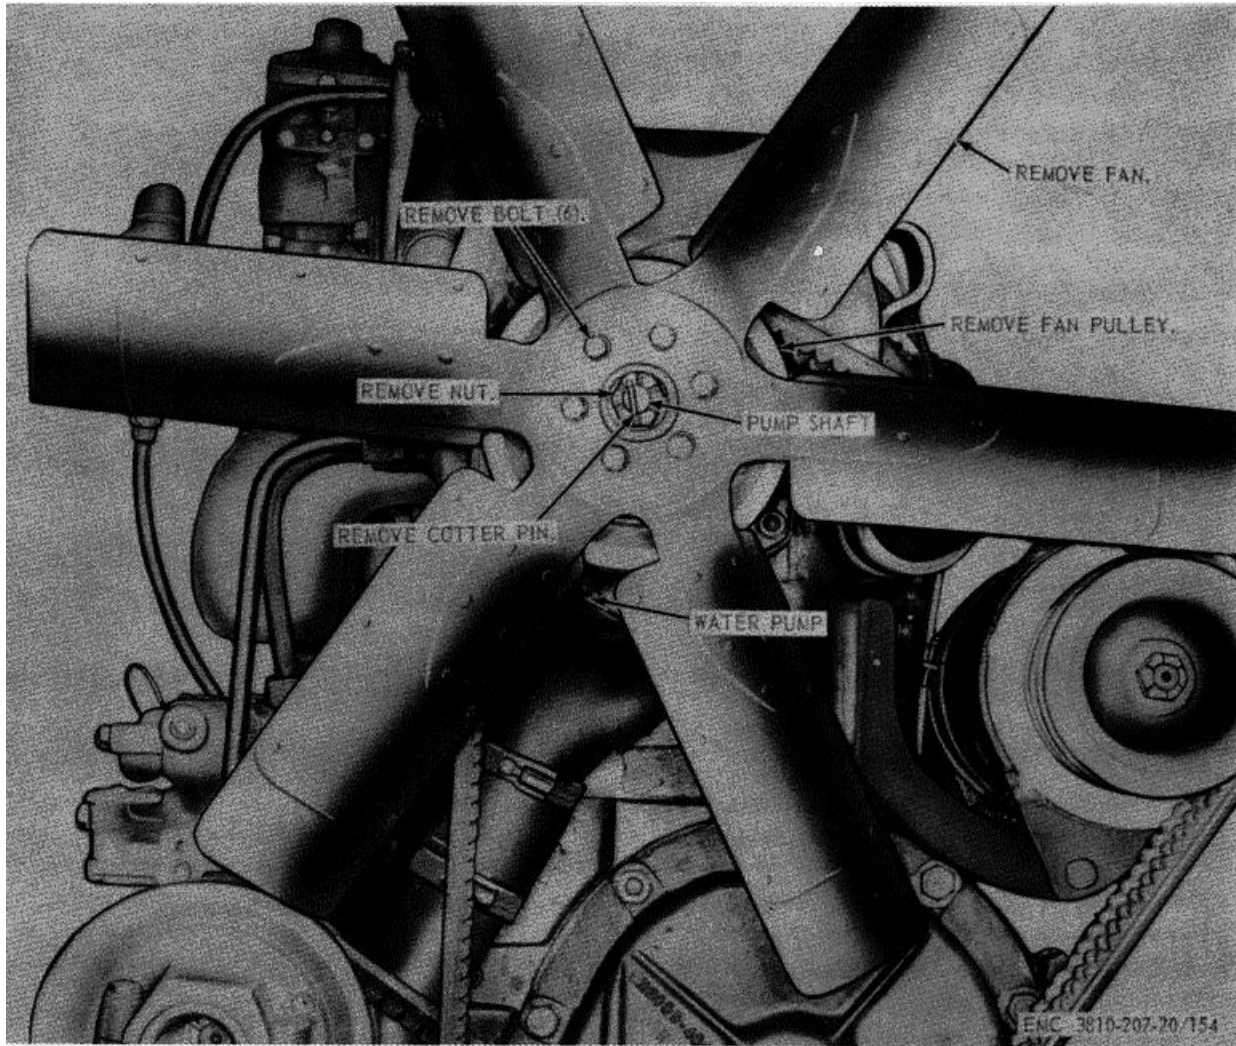

Figure 154. Carrier engine fan, removal and installation.
a. Removal. Remove the carrier engine fan as instructed on figure 154.
- (1) Clean all parts with an approved cleaning solvent.
- (2) Inspect all parts for cracks, breaks, and other damage. Replace defective fan.
c. Installation. Install the carrier engine fan as illustrated on figure 154.